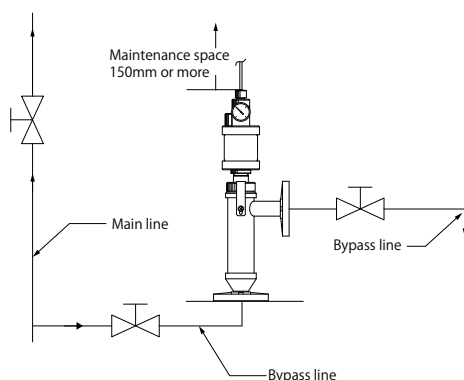

Fig.2
- In cases where there is a lot of floating matter in the measured liquid, attach a strainer to the inflow side of the holder. See [Fig.2].